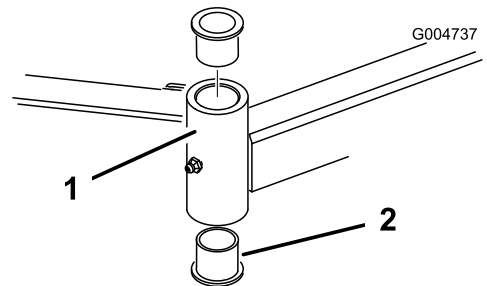

Figure 29
4. Insert a pin punch into the top or bottom of the mounting tube and drive the bushing out of the tube (Figure 29). Also drive the other bushing out of the tube. Clean the inside of the tubes to remove dirt.